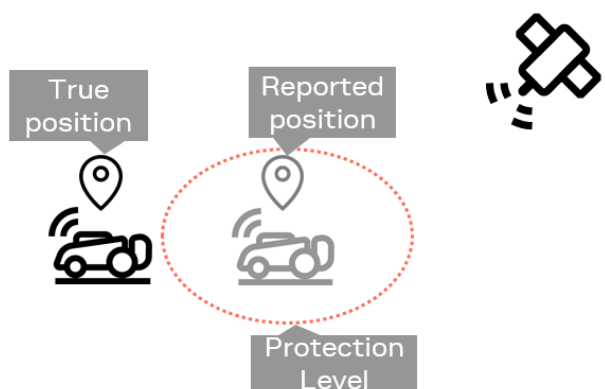

Figure 11: Misleading information
The protection level bounds the true position error with a target misleading information risk (TMIR), for example 5% [MI/epoch] (read: 5% probability of having an MI per epoch). The target misleading information risk describes the probability per epoch of having misleading information (MI), meaning that it is not possible to bound the true position error because it is larger than the protection level (see Figure 11).